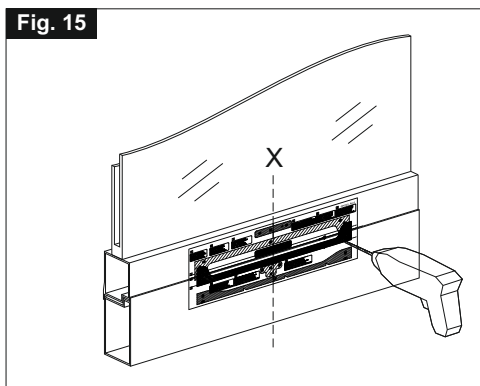

Fig. 16
- 5) **Fig. 16/17-** With the suitable screws tighten the bracket for window frame connection and the quick coupling;